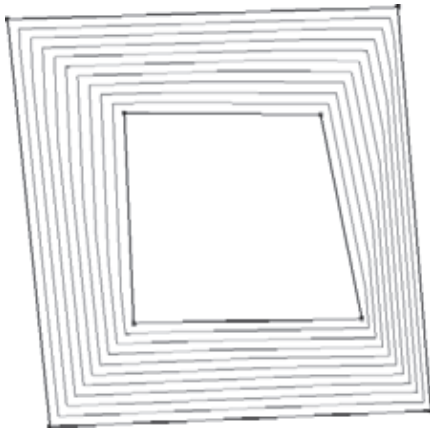

Figure 7.39
7. In the Surface panel, select Finish Surface. Revit will grade the distance between the elevations with contour lines, as shown in Figure 7.39. If you zoom in, you'll notice that some lines are stronger and some are lighter. Those that appear stronger are the primary contours. The lighter ones are the secondary contours.